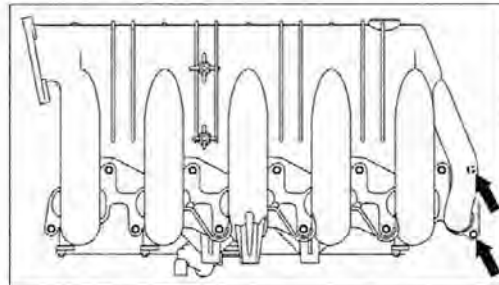

Figure 22
- Remove 2 bolts (arrows, Figure 22) on last intake manifold flange